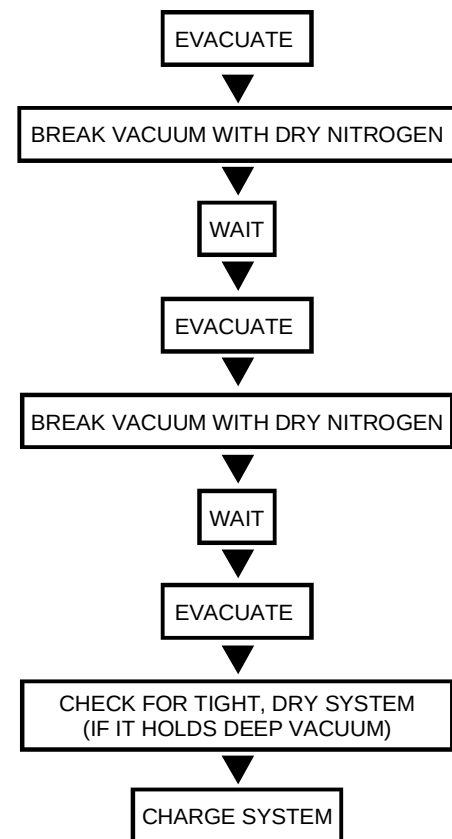

Figure 6
5. Repeat this procedure as indicated in Figure 6. System will then be free of any contaminants and water vapor.